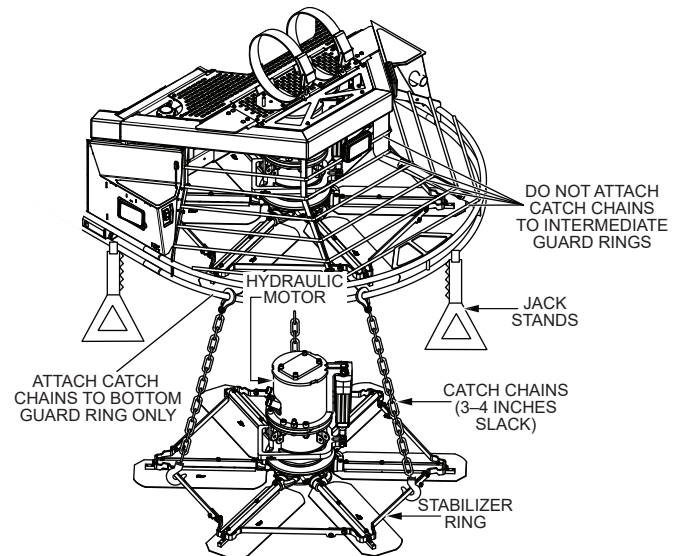

Figure 71. Prepare Trowel
3. Place the trowel on heavy-duty jack stands (Figure 71) on secure, level ground in an area that is free of dirt and debris.
4. Attach one end of three equally spaced straps or catch chains to the stabilizer ring (Figure 71). Attach the other end of these straps or chains to the **bottom guard ring** in a manner that would prevent the spider assembly from falling.
Make sure the catch chains are positioned so that they are equally spaced, with **no more than 3 to 4 inches of slack**. The catch chains in Figure 71 appear longer than actual size. They are shown this way for clarity only.